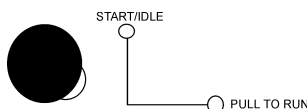

Figure 17. Engine Throttle Lever (low)
7. Check the engine throttle lever is in 'low' position (Figure 17).